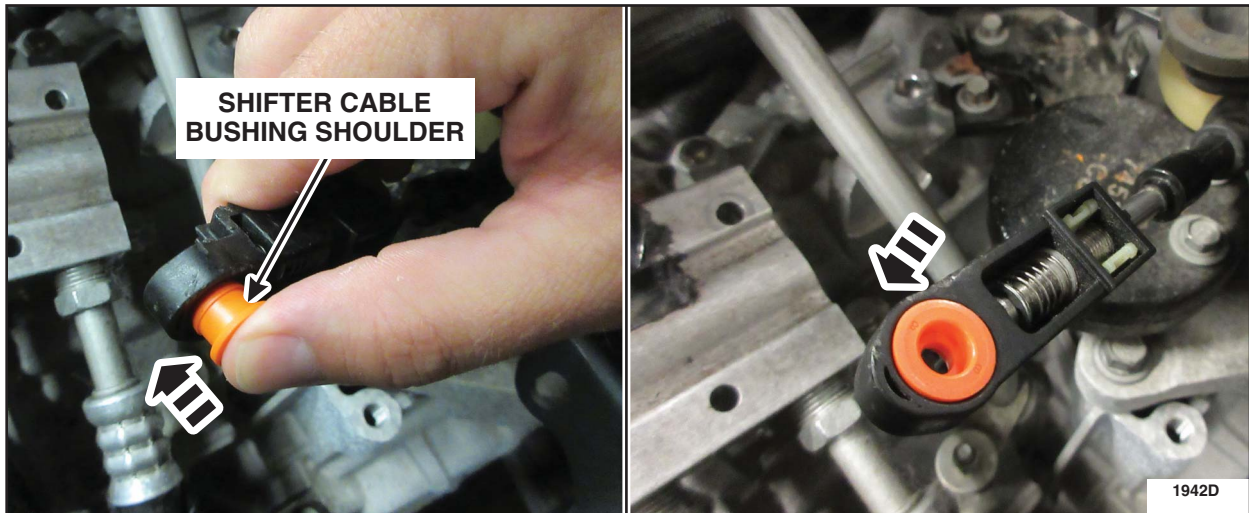

FIGURE 8
9. Using your hands only, install the new selector lever cable bushing. Do not use any grease to install, the bushing and cable end should be dry. See Figure 8.